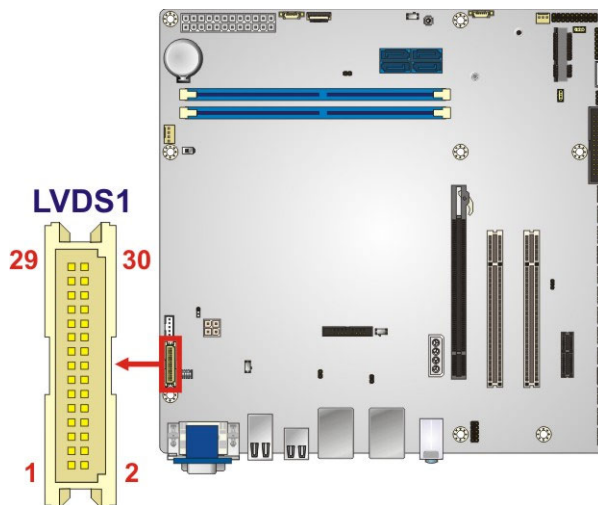

Figure 3-19: LVDS Connector Location
- CN Location:** See **Figure 3-19**